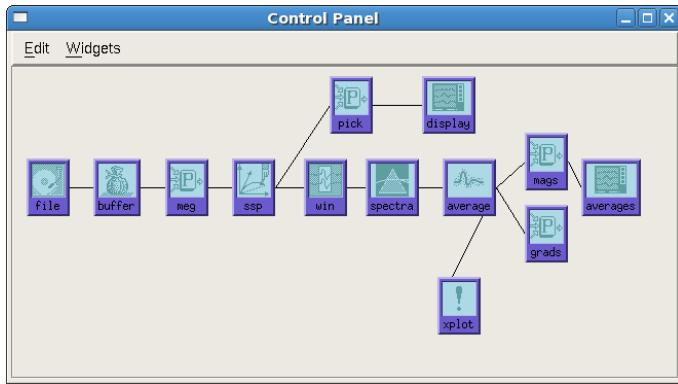

Figure 62: Control panel in ave\_spectra.setup.
- Select **Displays -> Control panel (Alt-d + c)** to adjust the parameters and views (Figure 62).